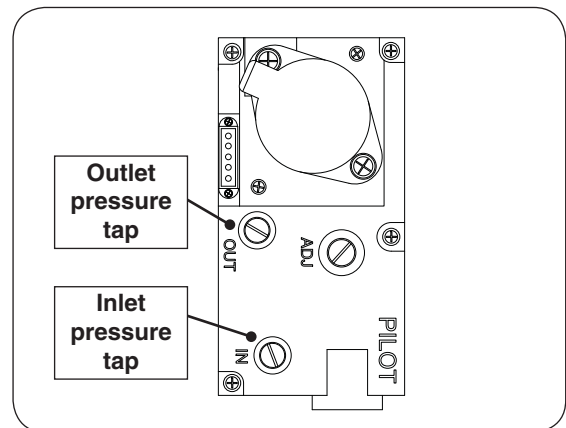

Fig. 30-2 Gas valve detail
1. With the burner system on, check the gas pressure to ensure all requirements are met. Reference Fig. 30-2 for pressure tap locations, and the GAS PRESSURE REQUIREMENTS section for details.